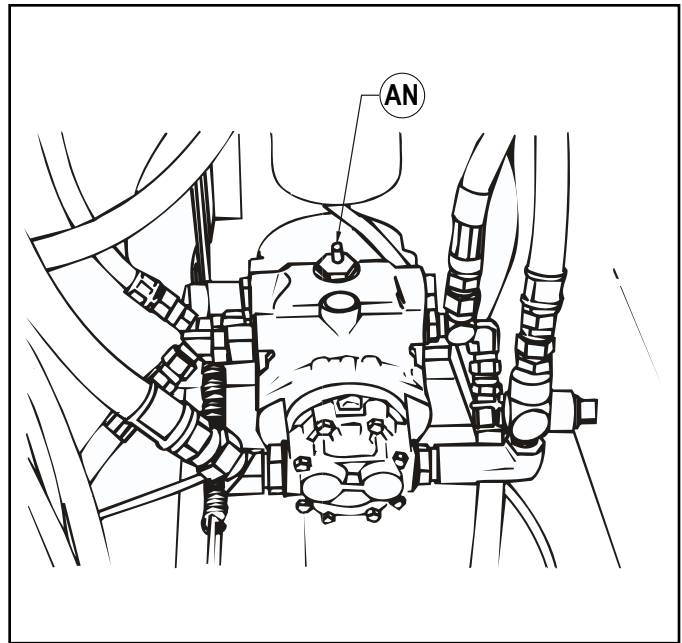

FIGURE 21
TOWING INSTRUCTIONS (SEE FIGURE 21)
1. Locate Tow Control shaft Extension (AN) as shown in Figure 21. (See arrow)